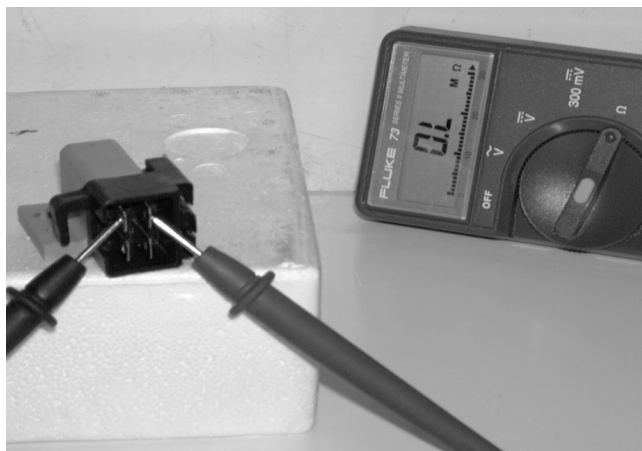

FIGURE 5.
–There will be **NO CONTINUITY**. See figure 5.